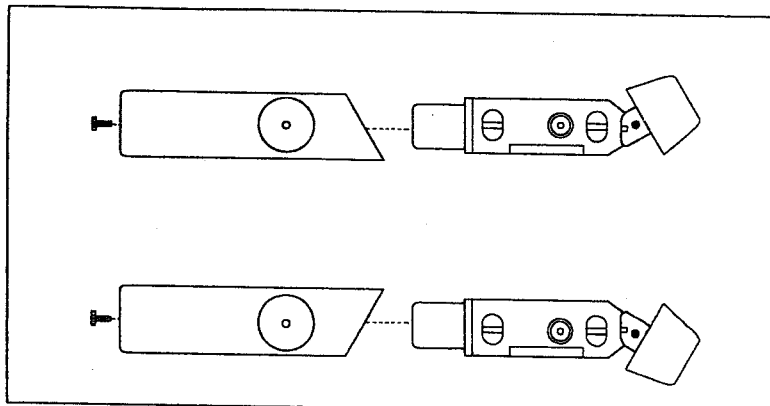

Figure 2. Tilting the Face of the LH5
The unit is supplied with its face angled up within its case approximately 20 degrees. This can be easily changed so that it tilts down by 20 degrees instead, if desired. Figure 2 shows the two angles that the face can be positioned. The following procedure tells how to change the angle:
3. Adjust the face to the desired position by tilting it up or down. See Figure 2.